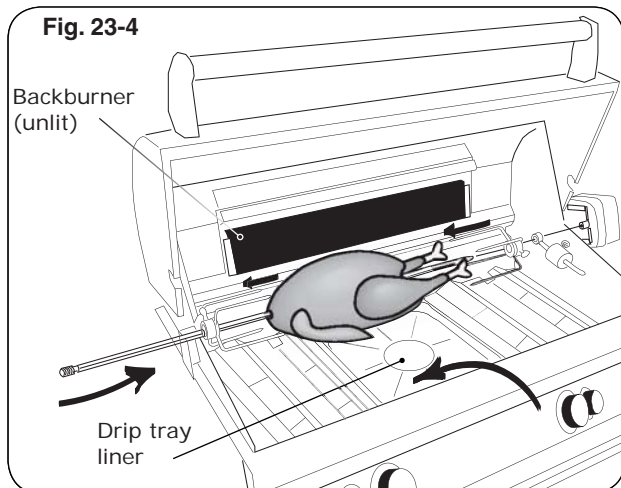

Fig. 23-4
4. Slide the left meat holder onto the rod (and tighten), the meat onto the rod and into the holder, followed by the right meat holder onto the rod and into the meat as shown in Fig. 23-4. Tighten the right meat holder. Be sure the meat is centered and balanced as well as possible.
9. To keep drippings off the burners and simplify cleanup, place Fire Magic® drip tray liners under the meat, if desired (Fig. 23-4).